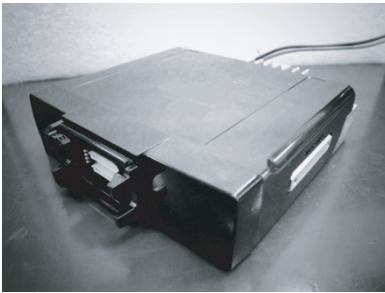

Fig.3
- (3) Fit the KRK-15B with four tabs onto the front of the chassis. (Fig. 3)